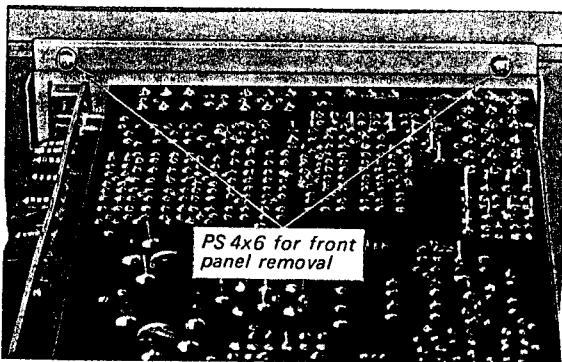
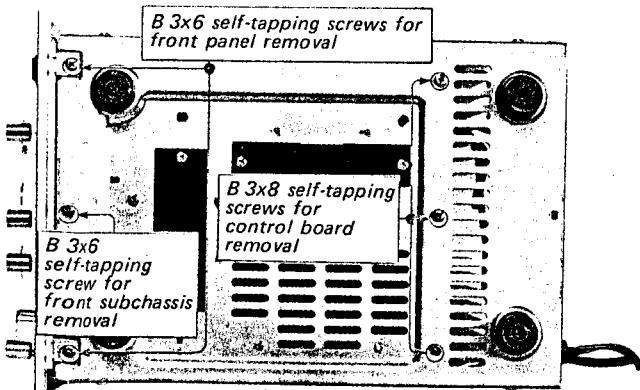
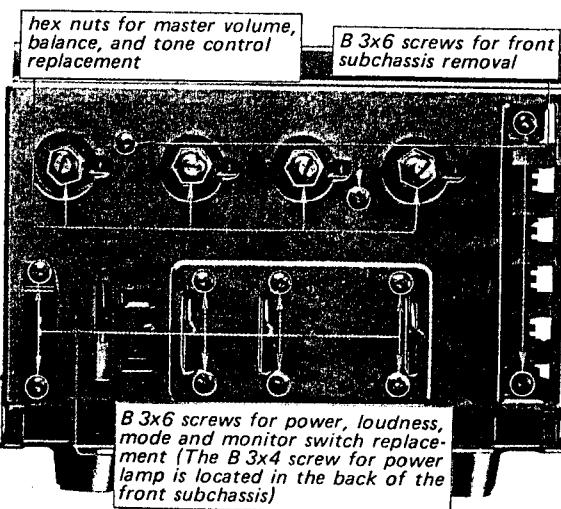
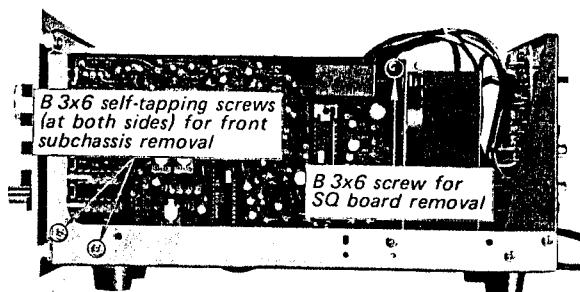

Fig. 2-1. Front panel removal
Fig. 2-2. Front subchassis and control board removal
Fig. 2-3. Front subchassis removal, and control and switch replacement
Fig. 2-4. Front subchassis and SQ board removal
3. Remove the two screws shown in Fig. 2-1, and the two screws shown in Fig. 2-2.
2. Remove the screw shown in Fig. 2-2, and the eight screws shown in Fig. 2-3 and Fig. 2-4.
2. To separate the SQ board from the chassis, remove the screw shown in Fig. 2-4.
3. To separate the control board, first, remove the three screws shown in Fig. 2-2. Next, remove the four screws (B 3x12) securing the two power ICs to the heat sink. Then, remove the self-tapping screw (B 3x10) securing the control board to the heat sink with a bracket at the top.
1. These switches and the lamp are secured to the front subchassis by screws. Remove these screws, shown in Fig. 2-3, and disconnect the lead wires.
2. Remove the four hex nuts, shown in Fig. 2-3, and the bracket, which braces the controls together, from the shafts of the controls.